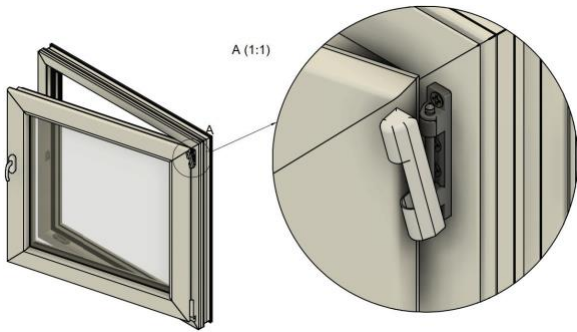

Figure 17
2. Remove the hinge cover (Figure 17).